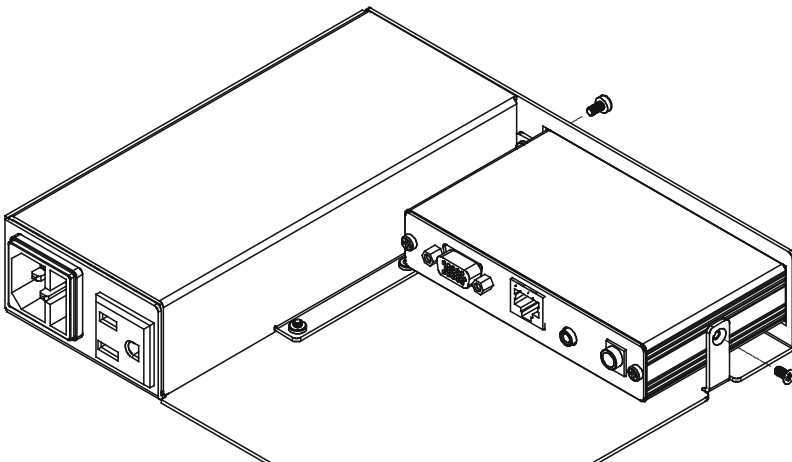

Figure 5: Attaching the TOOL to the Brackets
- Fasten the fixed bracket to the left side of the TOOL¹ and fasten the attached “L” shaped bracket to the front panel of the **RK-1UTB/T**² (see Figure 5).